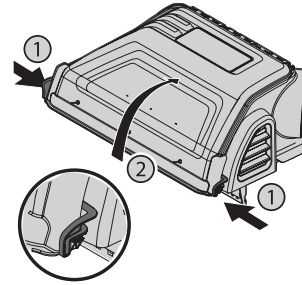

Figure 12
6. Open hood by pushing in on the rear side tabs with your hand (1), and lifting the cover with your other hand in the center rear of the bagger cover (2) as shown in Figure 12.